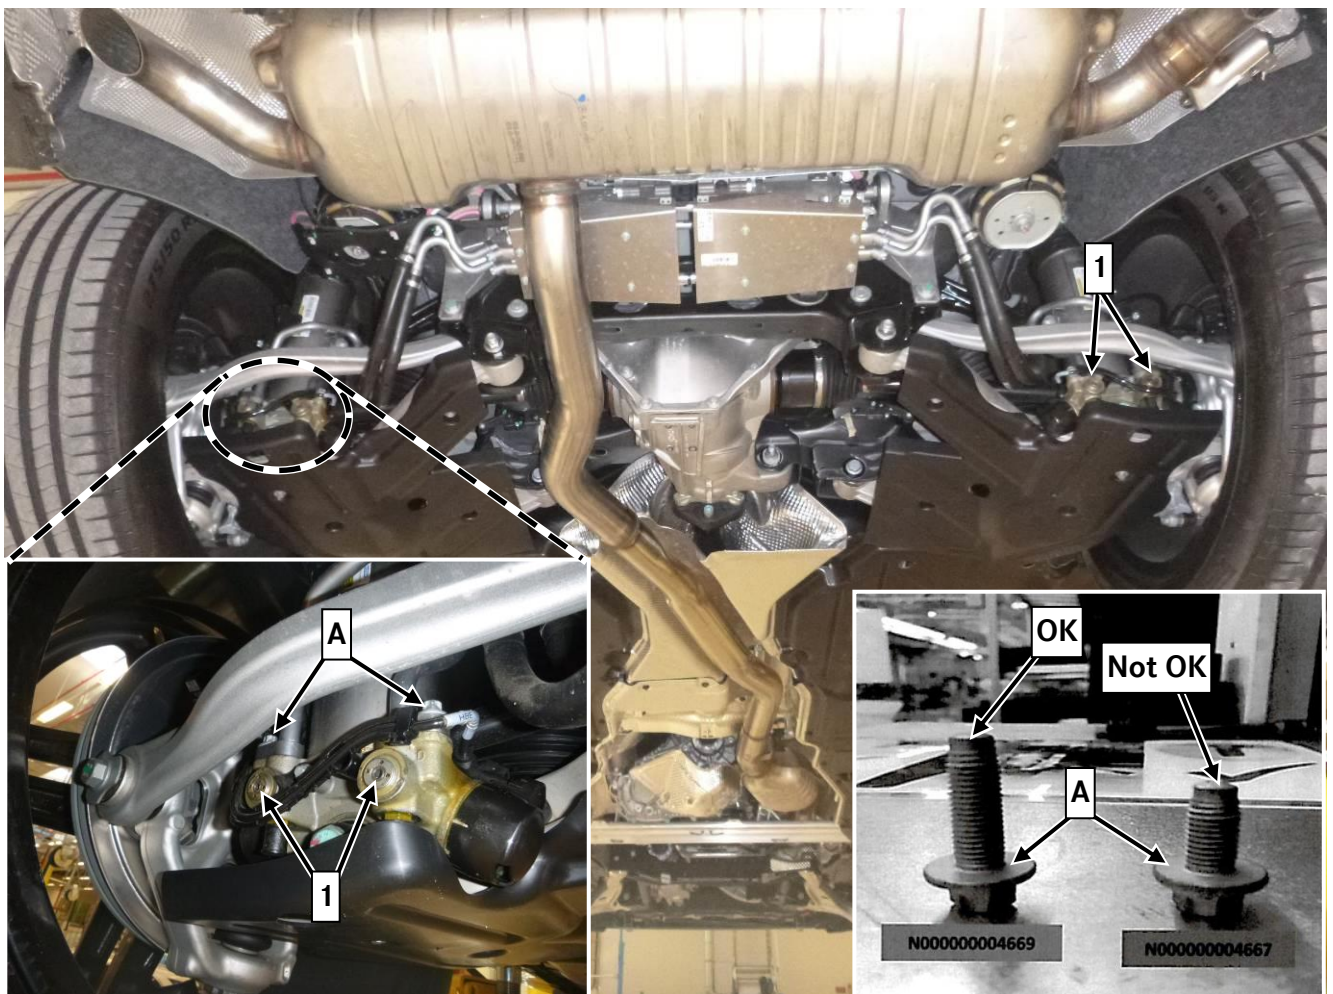

Figure 1
1. Remove covers (if present) and close the two plug screws (1, figure 1) on each of the left and right rear-axle shock absorbers.
2. Remove hydraulic line mounting screws (A, figure 1) on each of the left and right rear-axle shock absorbers one after another.
3. Measure the length of the mounting screws (A, figure 1).
i Reopen the two shutoff valves (1, figure 1) on each of the rear-axle shock absorbers.
2. Reopen the two shutoff valves (1, figure 1) on each rear-axle shock absorber.